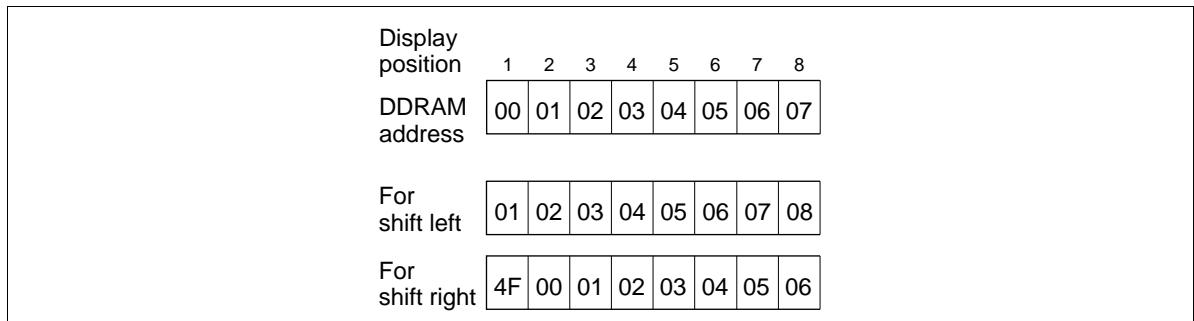

Figure 3 1-Line by 8-Character Display Example
- When there are fewer than 80 display characters, the display begins at the head position. For example, if using only the HD44780, 8 characters are displayed. See Figure 3.
When the display shift operation is performed, the DDRAM address shifts. See Figure 3.